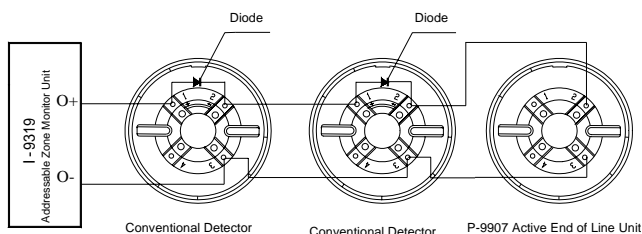

Fig. 5
2. When P-9907 Active End of Line Unit is not used as detector base, a cover should be added, the system composition is shown as Fig. 5.